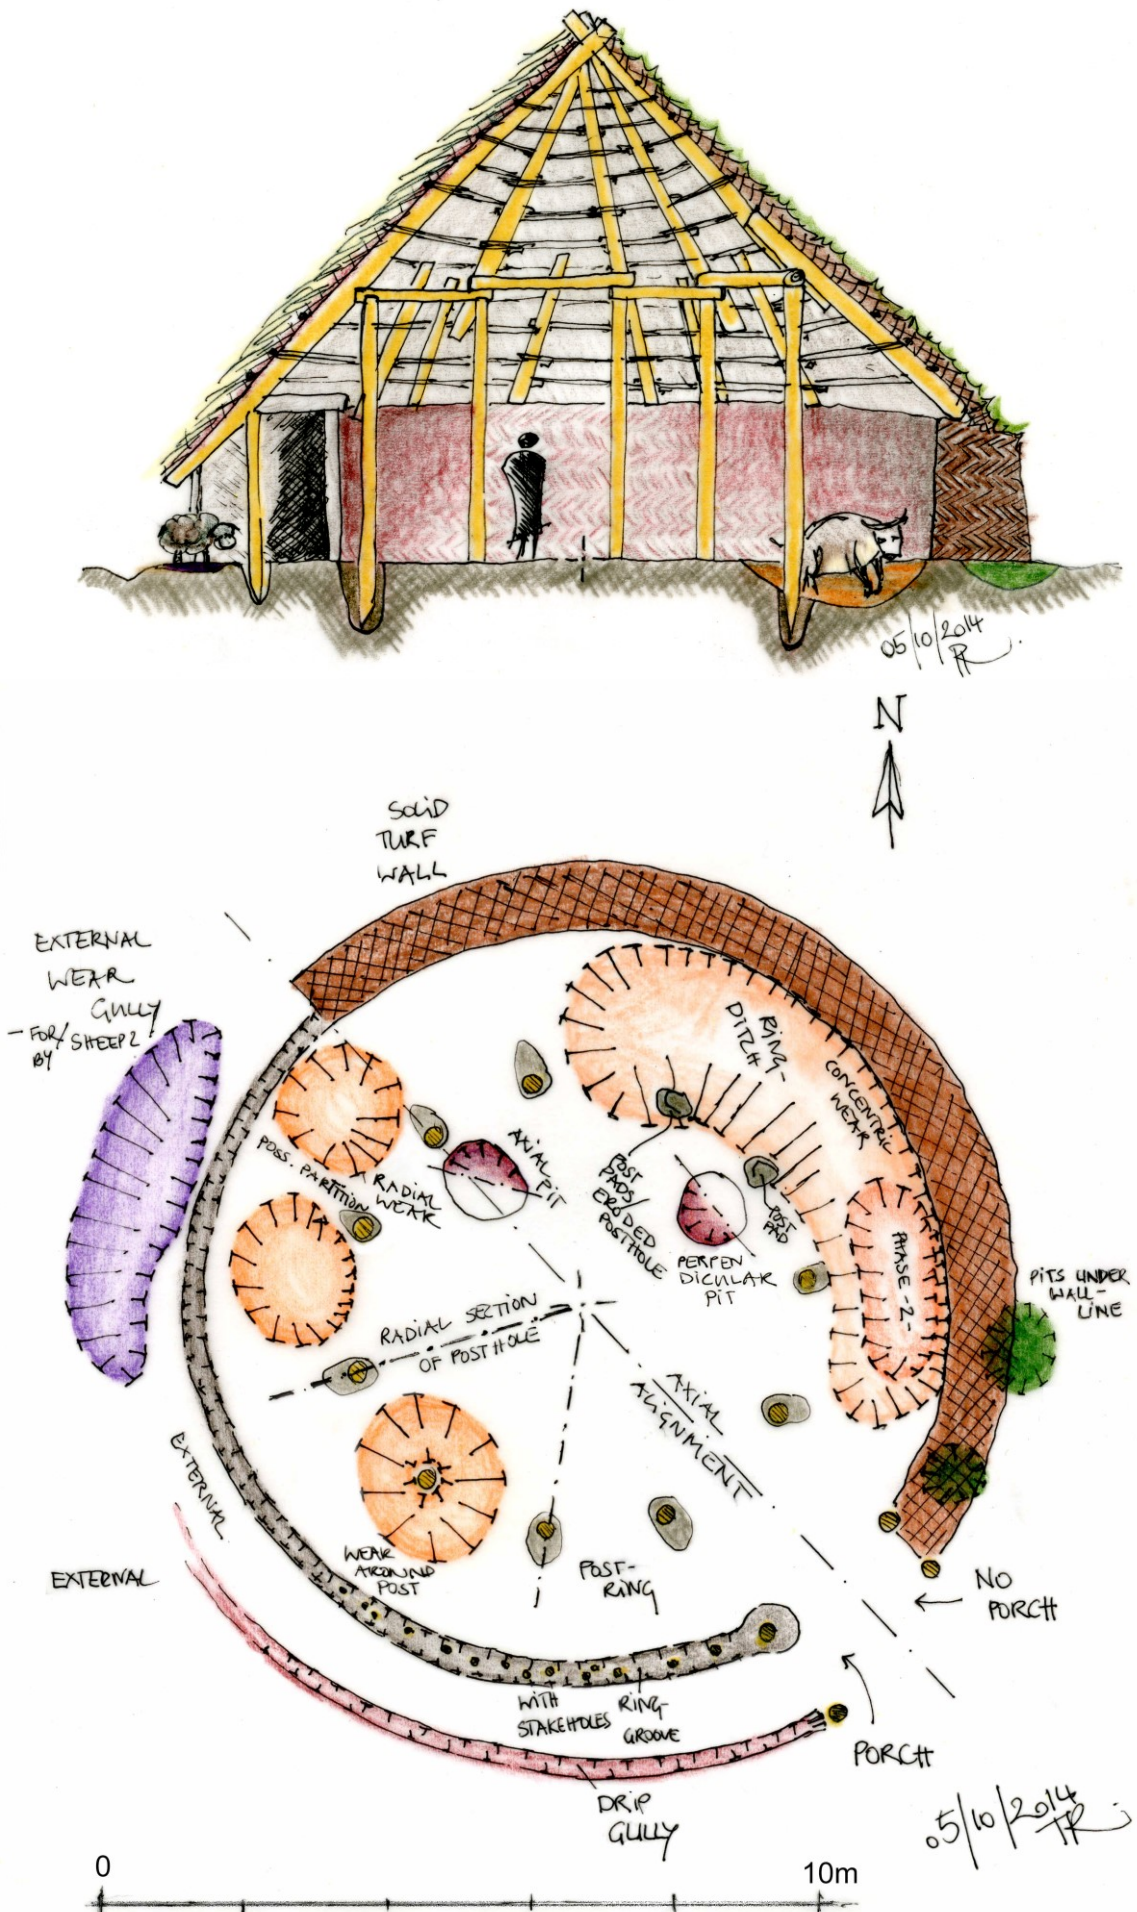
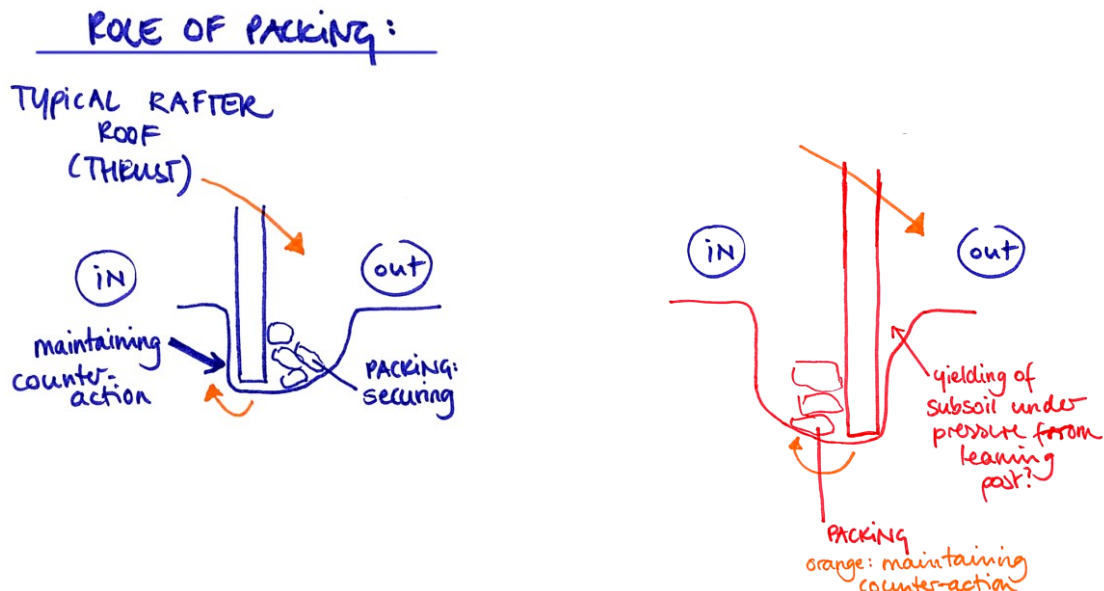

Figure 1 : Typical roundhouse features in plan and section. Drawings T Romankiewicz.
Figure 2 : Sketch section of a posthole. Drawings T Romankiewicz.
Where possible **section postholes radially**, and **relative to the projected centre of the roundhouse**, as this follows the line of structural forces within the roundhouse (see Figure 1 and Figure 2). This should show any structural settling or deformation and help understand the roundhouse superstructure. See Murray & Murray 2006 for an example of what information can be gained. However, where postholes are part of a feature complex and have the potential of showing phases of intercutting, re-use or repair, then of course excavate on a more appropriate angle.
Record position of **stone packing** (if extant) **in relation to post-pipe** (if extant). Sometimes the post-pipe is not obvious, but the position/"floating" of packing stones can indicate that the post **rotted in situ**, whereas tumbled stones, stones at odd angles and recuts into top of posthole may suggest the **post was lifted**, and the stones collapsed into the hollow. If there is a post-pipe (or a shadow thereof), was the **post set centrally within the posthole or against one of the sides** (side towards centre of roundhouse OR side towards outer edge of roundhouse)? This will help clarify how much structural knowledge the builders had, and how well they understood how to compensate for structural forces within the timber frame. Was the subsoil the main counteraction against the twisting of the post under stress (as seen in Figure 2 blue) or was this counteraction the role of the stone packing, because the subsoil was yielding too much under pressure (Figure 2 red)? Was the stone-packing a deliberate placing or more a natural accumulation of stones?
Compare features and terminology with Figure 1
How are the internal features **arranged** in the **interior**? Is the hearth/ cooking pit central or off centre (which side of an axis through the main entrance). **Discrete patches or lensing** indicate single, short-lived activities, which are **more promising for dating** than general fills that could contain redeposited material or trampled contamination from outside. Entrance areas are therefore more problematic than “**dark corners**” that may have seen less recurring activities. **In which quadrant** do features concentrate and **in what relation to the entrance** (in line with a central axis through the entrance; perpendicular to this axis, or both? – see Figure 1). **Where are the areas** that are seemingly **empty** of pits/ wear patterns/ erosions?
- Dimension of **stone packing** and description (angular, rounded, how tightly packed; give average diameter of stones, not just generic terms such as "medium-sized" or "small", even fists can be of very different sizes...) and describe and depict their three-dimensional location in relation to the post (see Figure 1 and 2).